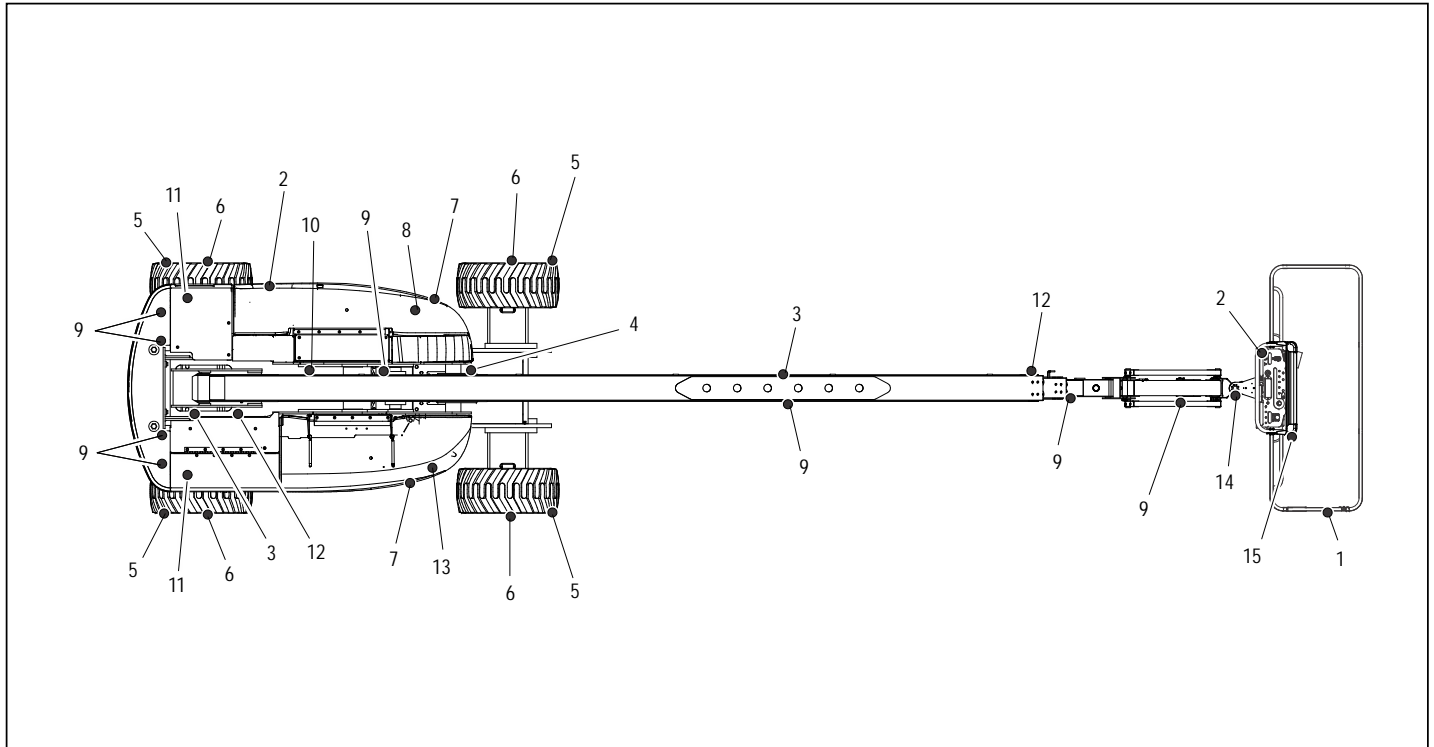

Figure 2-3. Daily Walk-Around Inspection - Sheet 1 of 2
5. **“Walk-Around” Inspection** – Refer to Figure 2-3. and Figure 2-4.